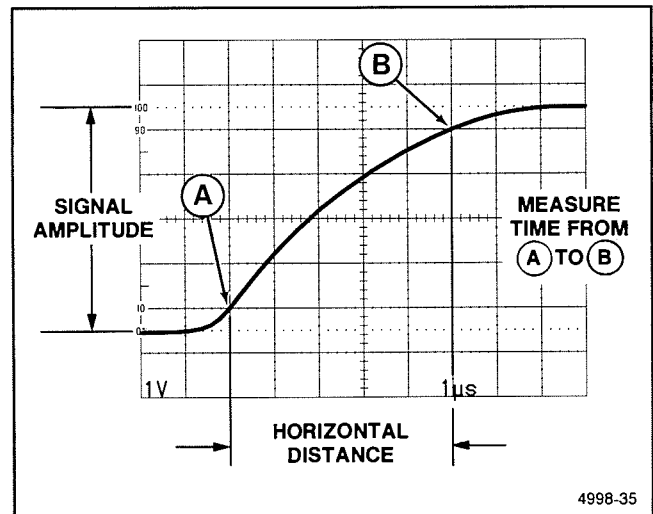

Figure 6-22. Rise time.
Rise-time measurements use the same methods as time duration, except that the measurements are made between the 10% and 90% points on the leading edge of the waveform (see Figure 6-22). Fall time is measured between the 90% and 10% points on the trailing edge of the waveform.
4. Adjust vertical positioning so that the zero reference of the waveform touches the 0% graticule line and the top of the waveform touches the 100% graticule line (see Figure 6-22).
6. Horizontally position the display so the 10% point on the waveform intersects the second vertical graticule line (see Figure 6-22, Point A).
EXAMPLE: The horizontal distance between the 10% and 90% points is 5 divisions (see Figure 6-22), and the A SEC/DIV switch is set to 1 μs . The X10 magnifier knob is pushed in (1X magnification).